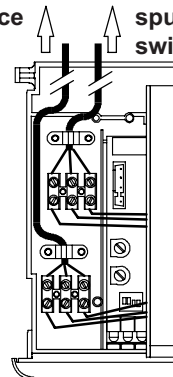

Fig. 6.18
- Route the electrical supply flexible cord and the external control flexible cord as illustrated in Fig. 6.18. Lock the flexible cords in place with the flexible cord clamps